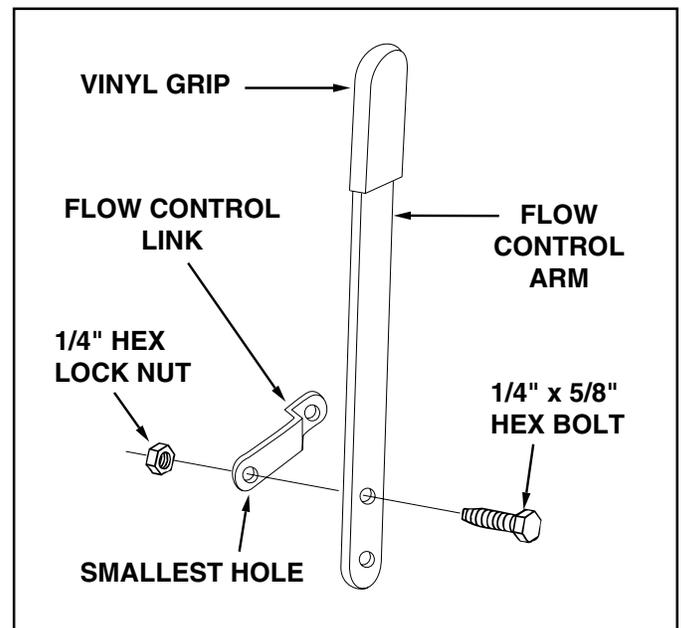

FIGURE 9
15. Assemble the flow control link (end with small hole) to the flow control arm using one 1/4" x 5/8" hex bolt and one 1/4" hex lock nut. See figure 9. **DO NOT OVERTIGHTEN.** The flow control link must pivot freely.
16. Place the vinyl grip on the flow control arm. See figure 9.